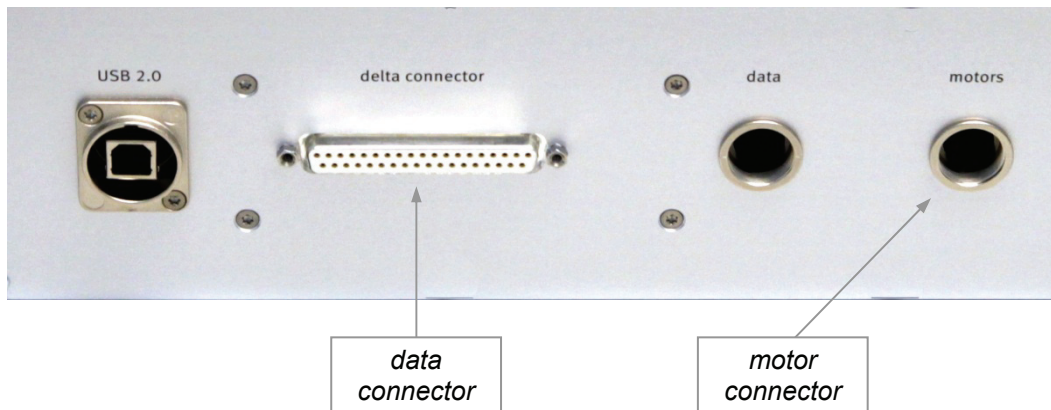

figure 3 – connecting the data and motor cables to the controller back plate
2. on the controller back plate, connect the data cable and motor cable to their respective connectors (figure 3).